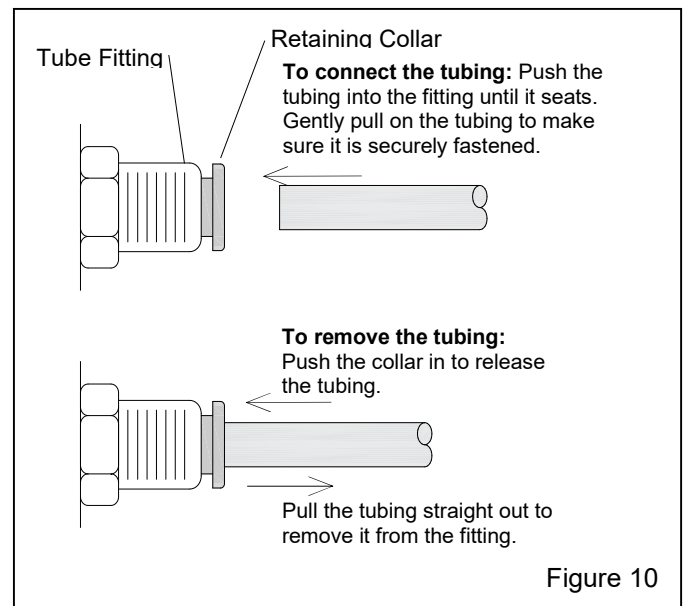

Figure 10
6.5 Using Tube-Lock Fittings – Figure 10